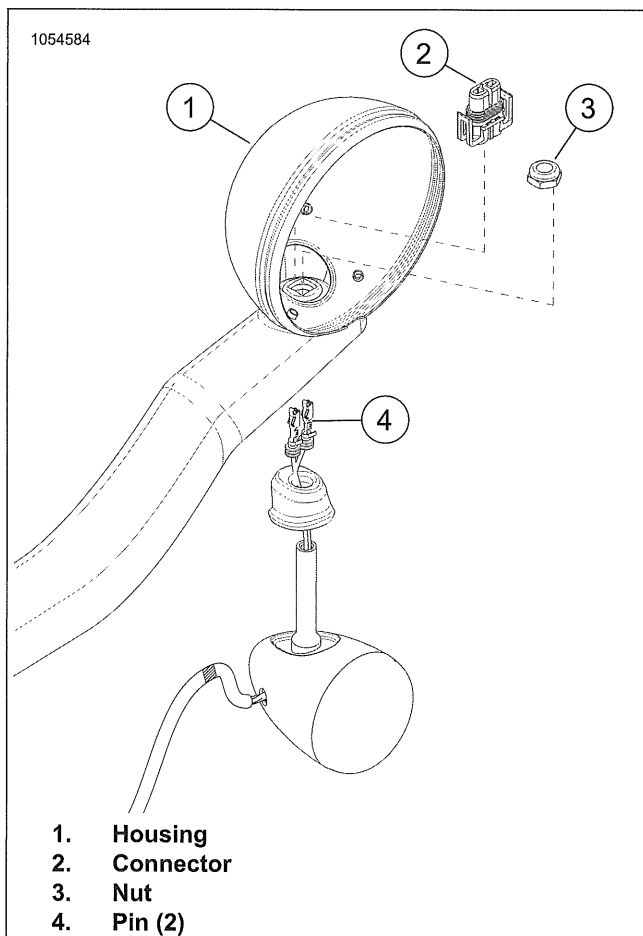

Figure 7-62. Auxiliary Lamp Housing with Incandescent Signal
1. See Figure 7-62. Disconnect pins (4) from connector (2).
2. Remove nut (3).
3. Remove housing (1).
1. See Figure 7-62. Install housing (1).
2. Position housing. Install nut (3) and tighten.